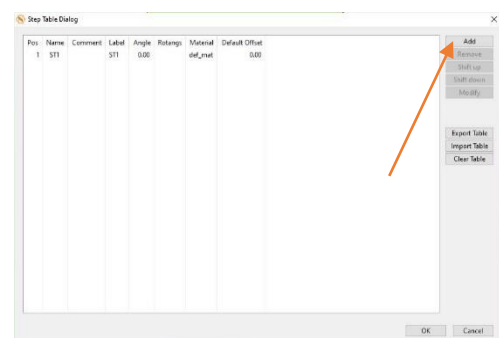

Figure 95
6. The appearing Step Table Dialog lists all steps used for generating the lay-up of our composite part. In our case we want to add four compound layers. Each layer is applied by one single step. For more complex parts, it is also possible to split layers into multiple steps if required. The first step is already added by default, so three more steps are needed. Therefor click  (Figure 95).